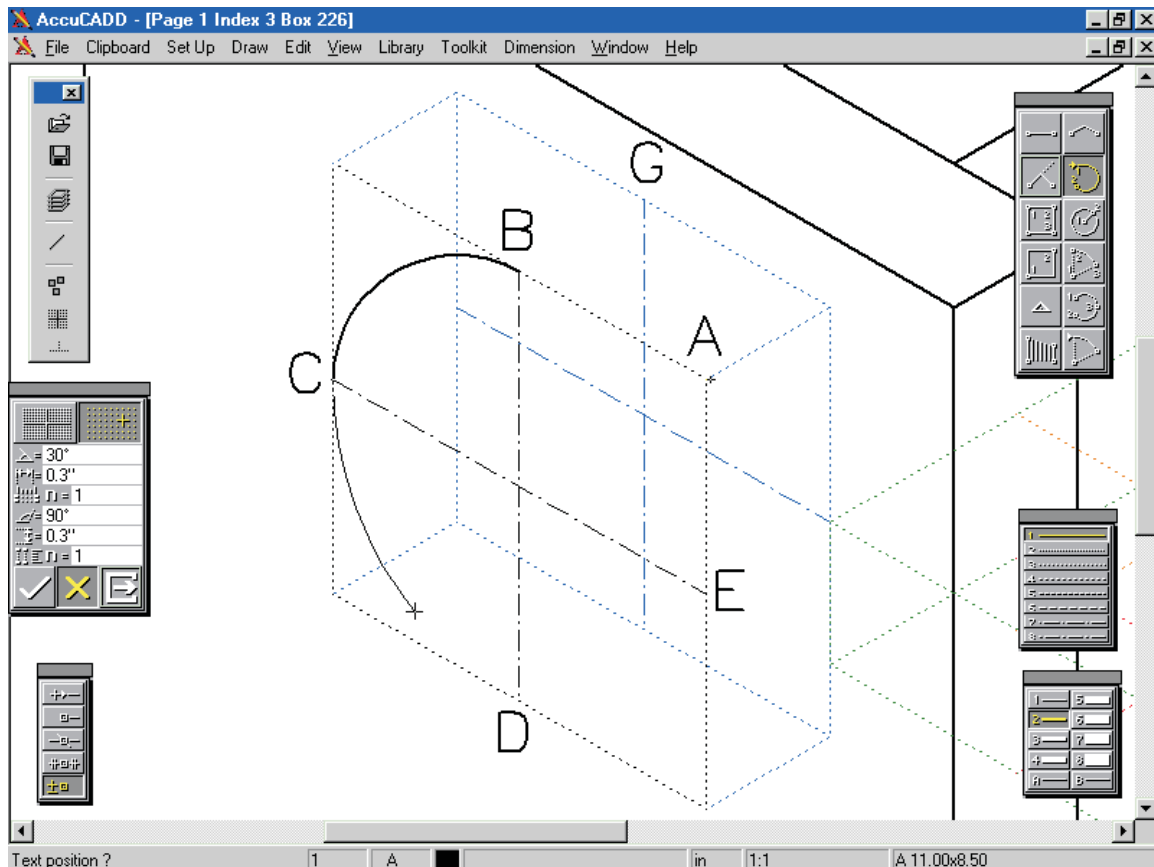

Figure 61: Drawing the four-arc ellipse
□ Zoom if you wish, as Figure 61. Select Toolkit: Line Direction, touch point A, followed by point B (this procedure sets the start position and direction of the tangent arc), then select tangent arc from the elements palette.